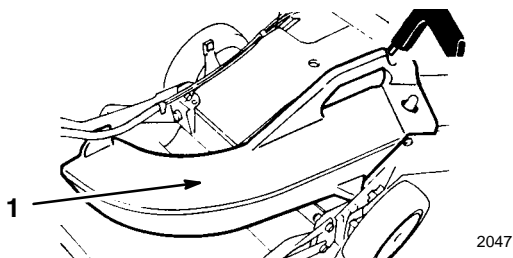

Figure 35
1. **Side Discharge Kit, Model No. 59113**—Installs in seconds. Rear mounted in place of the grass bag or discharge tunnel plug. Disperses clippings while trimming on both sides (Fig. 35).